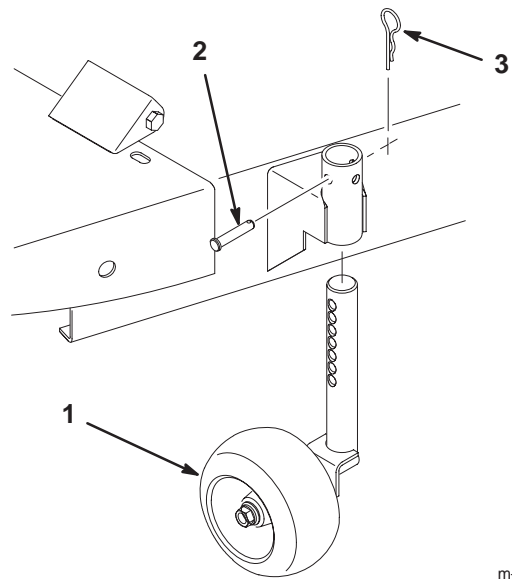

Figure 28
Important For cutting, orient the wheels parallel to the tractor (Fig. 28). Only turn the wheels parallel to the mower for installation or removal.
2. To adjust the wheel height, remove the hairpin cotter and pin to change hole location (Fig. 28).
3. Select a hole position so the wheel is approximately 3/8 in. (9.5 mm) off the ground for the height-of-cut position to be used (Fig. 28).